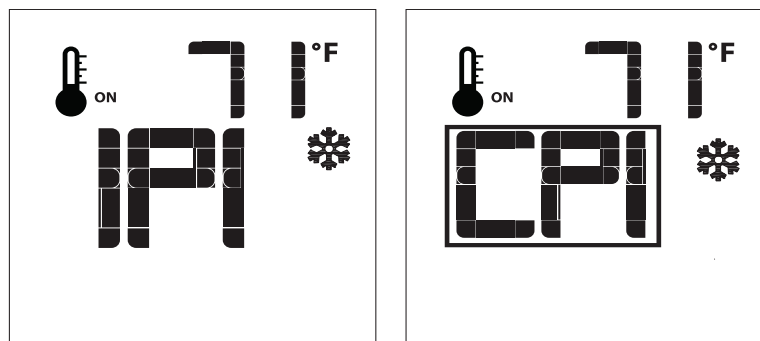
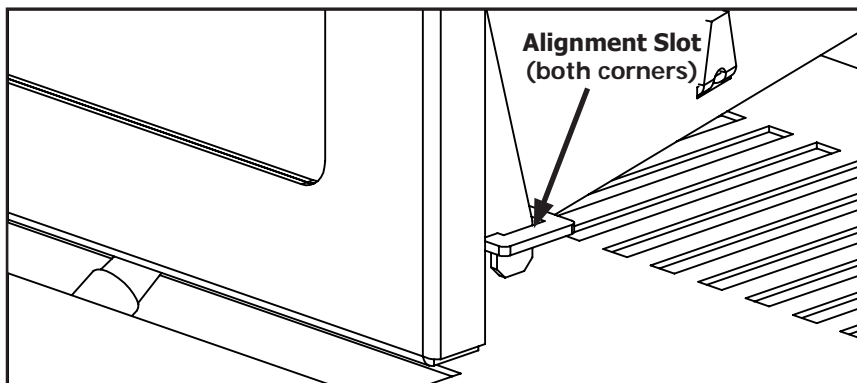

Figure 8: CPI Pilot Mode.
Figure 18. Bottom Alignment Slots for glass door
When the S20I is turned off press the mode key to index to the constant pilot (CPI) mode icon (see figure 8). Pressing the up arrow key will select Continuous Pilot Ignition (CPI) and pressing the down arrow key will return to IPI. Once a selection is made the IFC will beep once to confirm it had received the command. **NOTE: It is recommended to use the continuous pilot mode during the winter when the outside temperature is below 50°F (10°C) to keep the chimney properly heated for updraft during burner ignition.** Continuous pilot mode also keeps the firebox warm which eliminates both heat loss to cold air that is trapped inside the firebox as well as excessive exhaust vapour condensation on the door glass.
In order to install the log set, and for regular cleaning, the glass door must be removed. The face must first be removed, as outlined in the section above, before accessing the door latches. There are two (2) door latch mechanisms on top the glass door as shown in Figure 8. Each latch has a hole at the front to use the door tool, supplied with the unit, to pull the mechanisms straight out and up. When the top latches are unhooked, lean the door forward and then lift it up out of the alignment slots at the bottom corners of the firebox, shown in Figure 18.